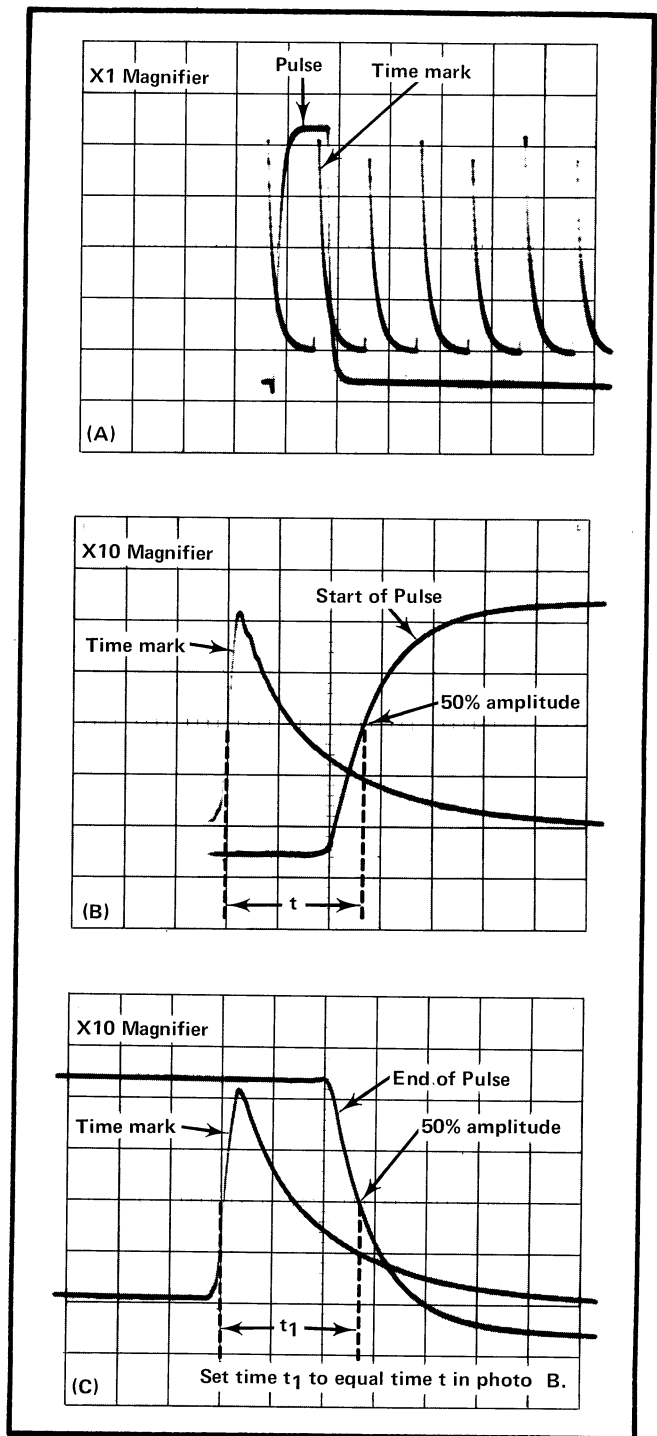

Fig. 5-8. Typical displays of Output Pulse and Time Marks for adjusting $1 \mu\text{s}$ Pulse Duration.
a. Display the $1 \mu\text{s}$ Pulse with the Time Marks as shown in Fig. 5-8.